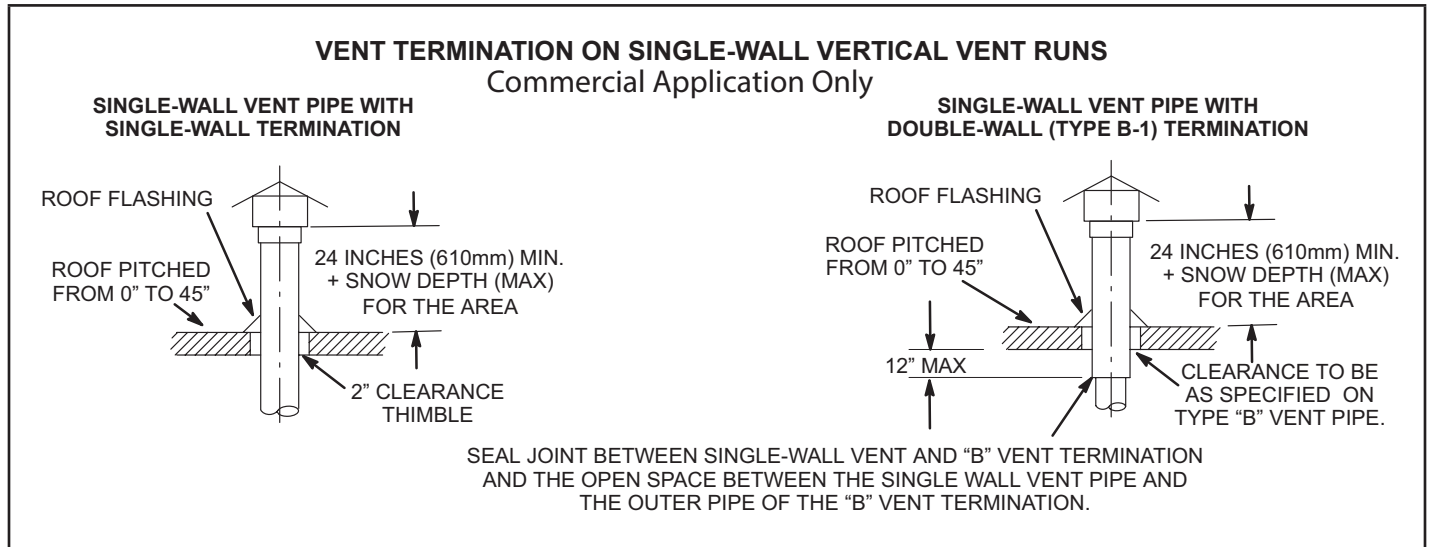

FIGURE 6
- 1 - These unit heaters are to be used with NFPA- or ANSI-approved chimneys or U.L.-listed type B-1 gas vents, or listed chimney lining systems for gas venting where applicable, as well as the modifications and limitations listed in figure 6. Seal single-wall, metal pipe according to **General Recommendations and Requirements** section.